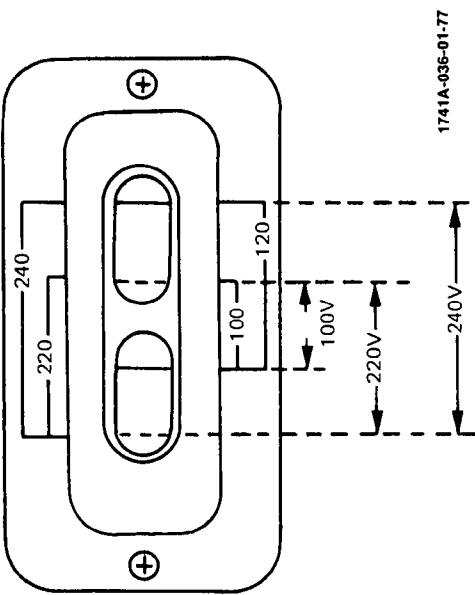

Figure 2-1. Line Voltage Selection Switch Settings
- c. Through opening in bottom cover, set power selector switches to proper position for input power source. Figure 2-1 shows switches set for 120 V operation.